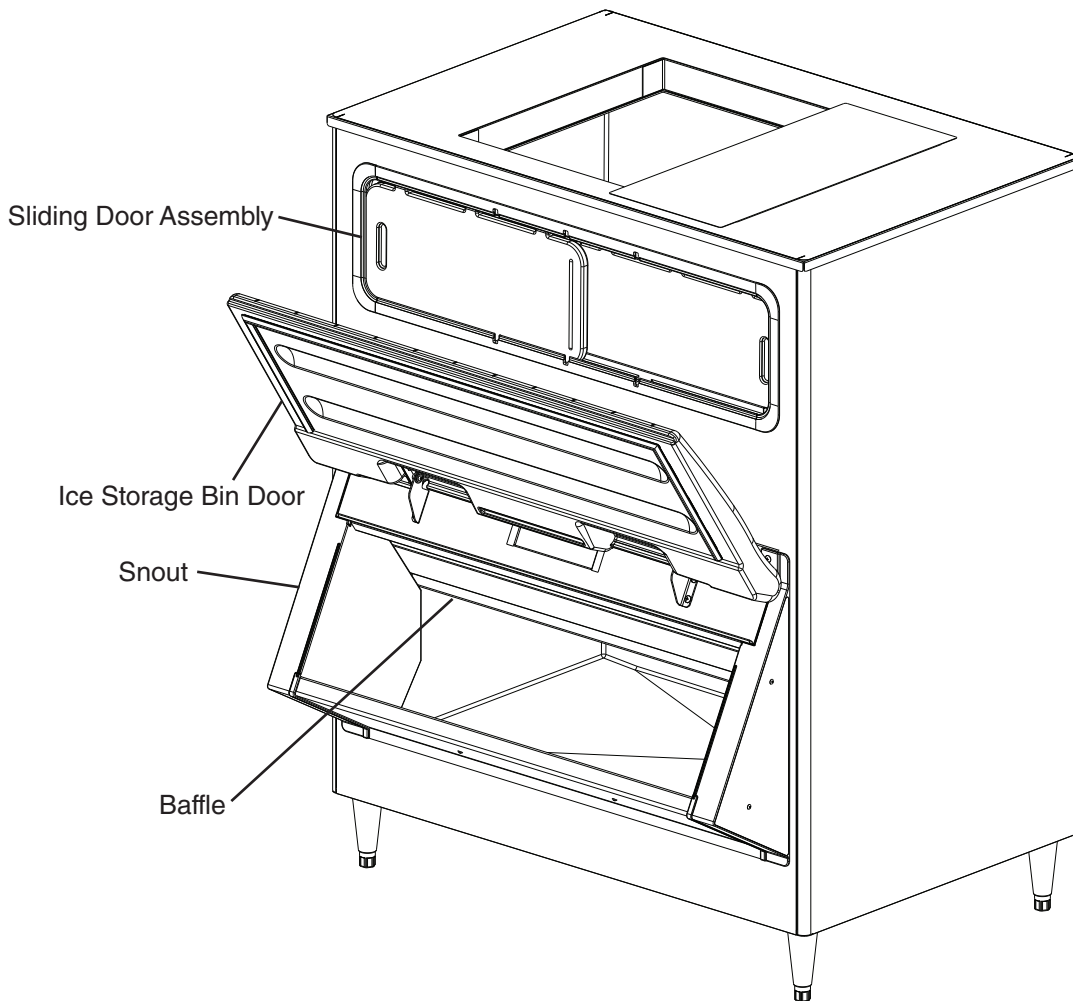

Fig. 6
- 4) Scrub the ice storage bin door, the snout, the baffle, the sliding door assembly, and the inside of the ice storage bin using a nylon scouring pad and the cleaning solution from step 3. See Fig. 6.